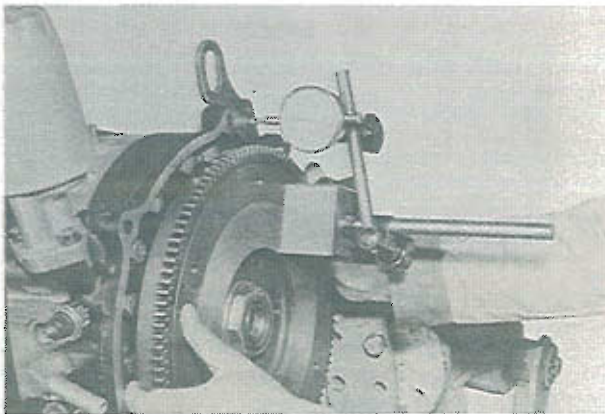

Fig. 1-97 Checking of eccentric shaft end play
11. Apply a dial indicator onto the flywheel as shown in Fig. 1-97. Move the flywheel fore and aft, and